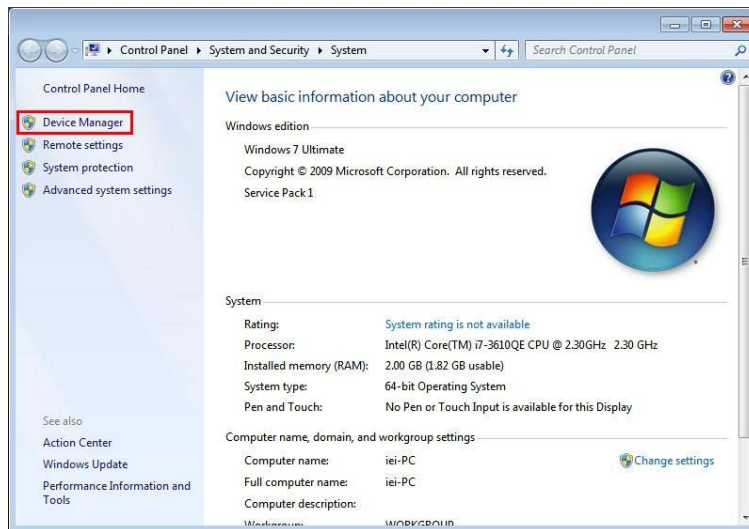

Figure 6-13: System Control Panel
Step 2: The system control panel window in Figure 6-13 appears.
Step 3: Click the Device Manager link (Figure 6-13).